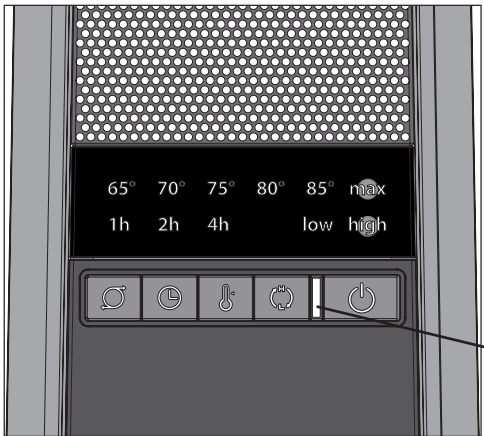

Figure 1
6. Upon turning the Heater on, the unit will be in HIGH heat (1500 Watts) **(Figure 1)**.